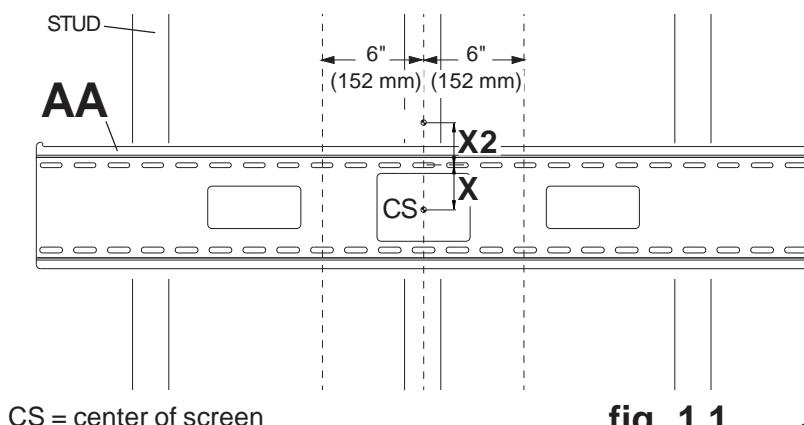

fig. 1.1
- 1 Wall plate (AA) can be mounted to three studs that are 16" apart. Use a stud finder to locate the edges of the studs. Use of an edge-to-edge stud finder is highly recommended. Based on their edges, draw a vertical line down each stud's center. Place wall plate on wall as a template. The top mounting slots should be located above the desired screen center as indicated by dimension X in figure 1.1 and chart below. Level plate, and mark the center of the six mounting holes. Make sure that the mounting holes are on the stud centerlines. Drill six 1/2" holes through drywall and metal studs. **Note:** It may be necessary to drill 5/32" pilot holes prior to drilling 1/2" holes.